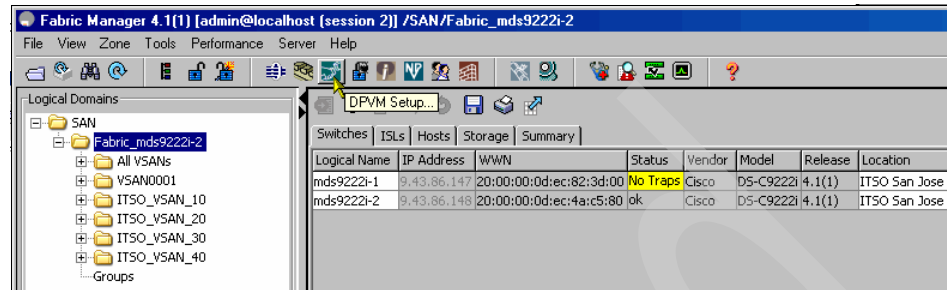

Figure 6-42 Launching the DPVM wizard
1. Click the DPVM icon, as shown in Figure 6-42.